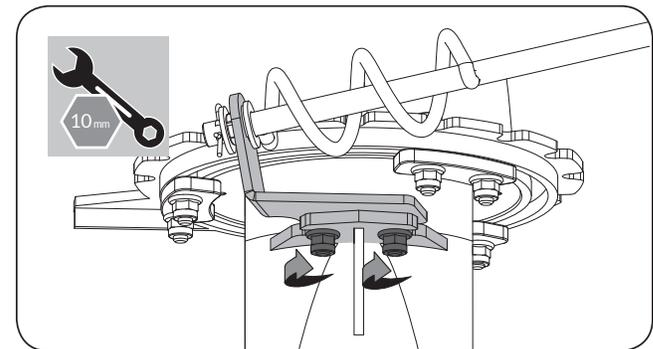

Figure 6b
4. Make sure the spiral at the bottom is fully engaging with the chute crank flange and tighten the two bolts on the chute bracket. (See **Figure 6b**)